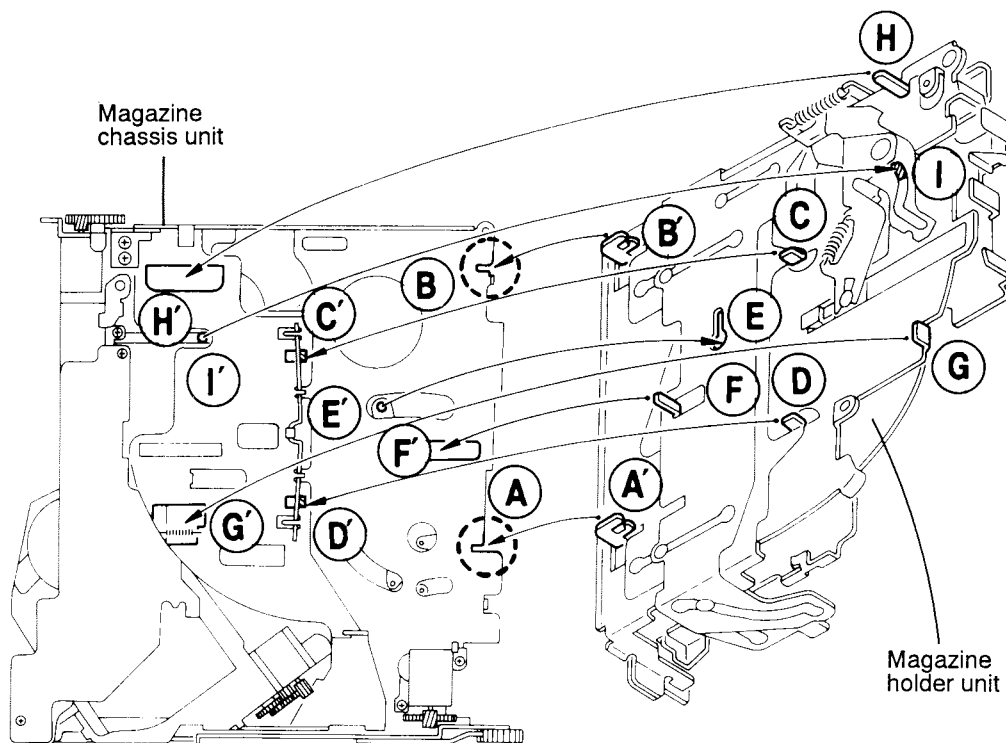

Fig. 4-14
(See Fig. 4-14)
1. Engage the pawls (A') and (B') on the magazine holder unit with the grooves (A) and (B) on the magazine chassis unit.
2. Insert the pawls (C) and (D) on the magazine holder unit with the grooves (C') and (D') in front of the spring bar attached to the magazine holder unit as shown in Fig. 4-14).
3. The positions of the holes (E and E'), (F and F'), (G and G'), (H and H') and (I and I') when the magazine holder unit has been mounted as well as the mounting position on the magazine holder unit should be confirmed to be as shown in Fig. 4-14).